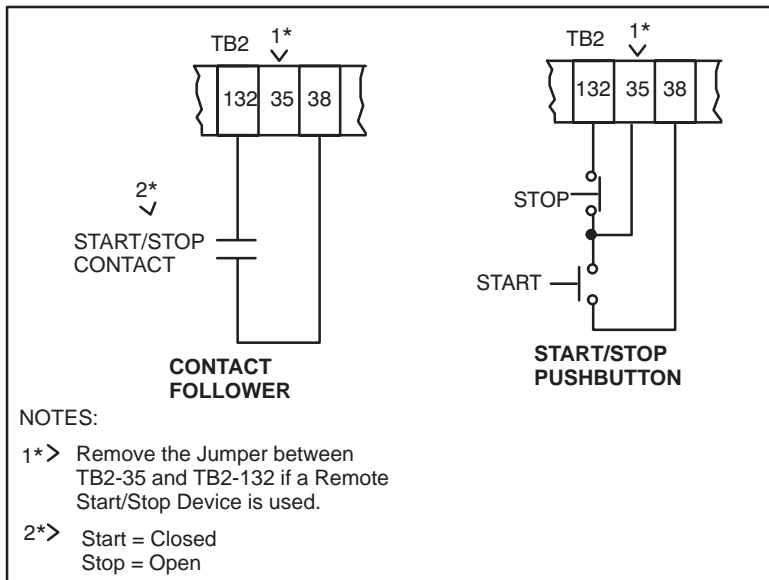

Figure 3-5. Start/Stop Circuit Connection.
3. Connect the Start/Stop pushbutton or normally open contact as shown in Figure 3-5.
4. If Start/Stop control is remote, remove the factory-installed jumper between terminals TB2-35 and TB2-132. See Figure 3-5. With the operator's Start/Stop controls mounted remotely from the controller, the AC fused disconnect or circuit breaker must be mounted in close proximity to the operator controls.